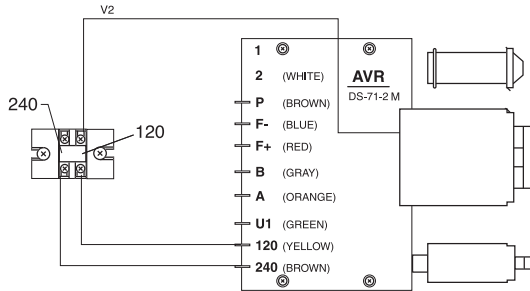

Figure 25: Control Terminal Board, 120 Volt Output
- a. 120 volt output can be selected by connecting the terminals of the control terminal board to 120 (Figure 25, also see page 29).